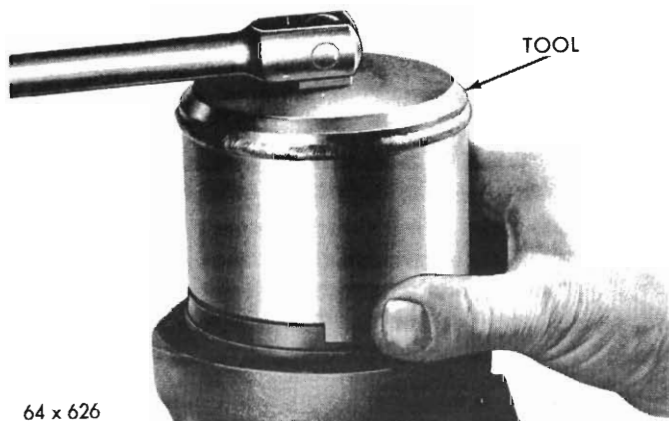

Fig. 11 – Removing the power train retaining nut
(6) Rotate the wormshaft to position the gear shaft sector teeth at the centre of the piston travel then loosen the steering power train retaining nut with Tool E19C25G (Fig. 11).
(8) Turn the wormshaft to the full left turn position to compress the power train parts, then remove the power train retaining nut using Tool E19C25C (refer Fig. 11).